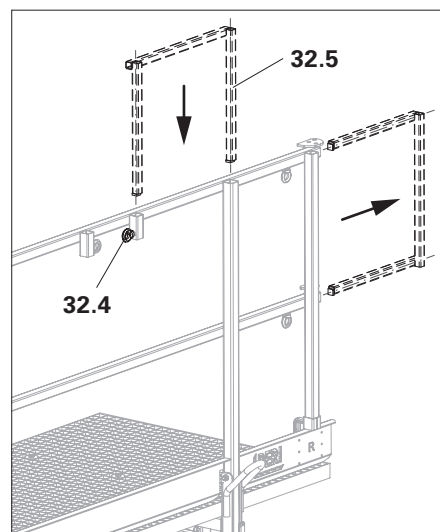

Fig. A13.02e
- Pull out the extension, turn it 90° and then insert it into the sleeves on the top guardrail and secure with the eyebolt (**32.4**) – right and left is possible. → Guardrail (**32.5**) is in position. (Fig. A13.02e)
- Position guardrail extension of the concreting platform, see Fig. A13.02e.